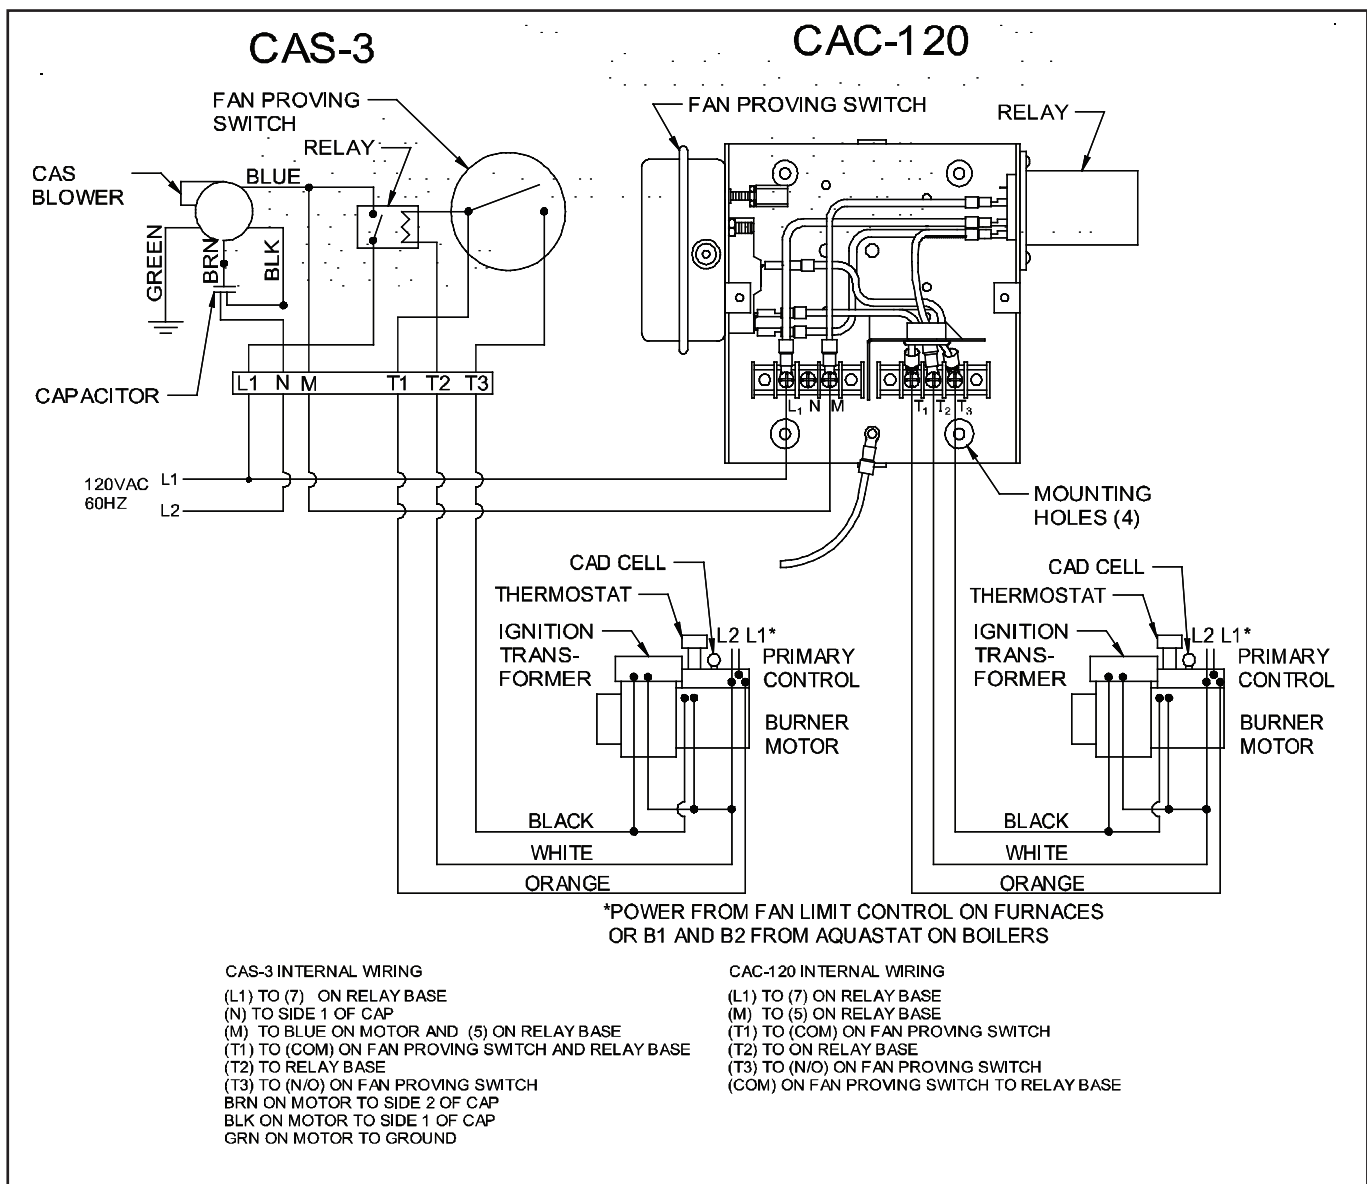

Figure 1
The junction box may be mounted anywhere that is convenient for routing the wiring and tubing. Mount the CAC-120 to a wall or floor joist using the four dimpled locations on the base of the box (See Figure 1.)
Note: The unit must be mounted so the draft proving switch is vertical as shown in Figure 1. The CAC-120 should be placed close enough to the CAS unit to route the provided 10 foot long plastic tubing from the draft proving switch to the exposed tubing on the CAS. If mounting further away, the installer must provide any necessary fittings and extra tubing.
1. Remove one knockout from the junction box on the fan proving switch side. Install line voltage power supply wires to the CAS unit as shown in Figure 1.
2. Remove one knockout from the side of the junction box opposite the fan proving switch. Run line voltage wiring to the appliance controls as shown in Figure 1.